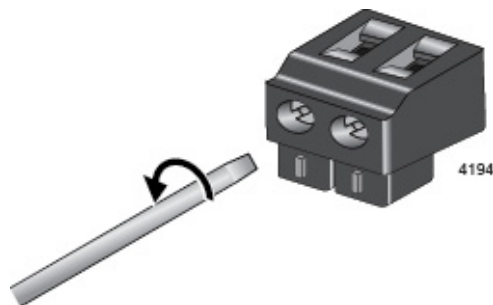

Figure 38. Loosening the Wire Retaining Screws on an Alarm Connector
4. Loosen the wire retaining screws in the connector with a #1 screwdriver. Refer to Figure 38.